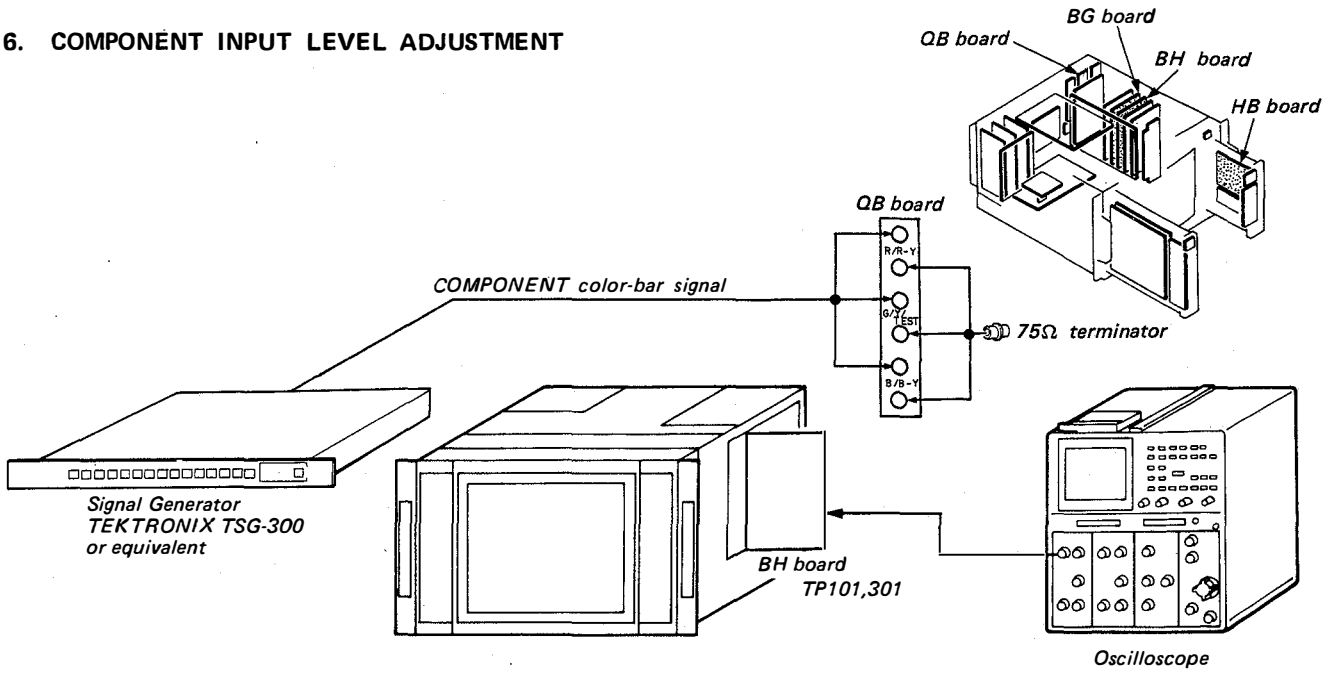
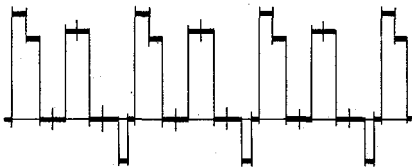

Fig. 6-1
Fig. 6-2
1. Complete the connections as shown in Fig. 6-1.
- INPUT selector B (FRONT PANEL (R))
3. Adjust RV21 of BG board so that the output waveform becomes flat. (Fig. 6-2)